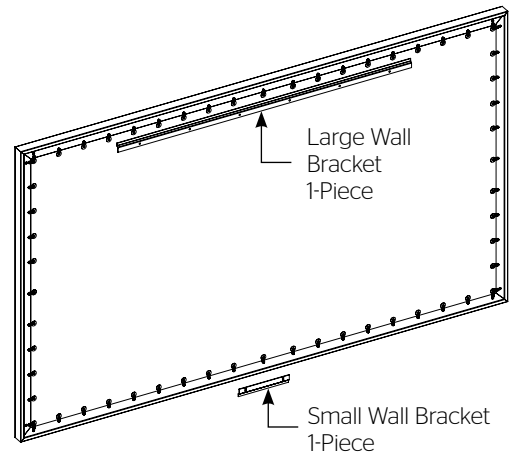

Figure 5
1. Secure the wall bracket to wall studs at the desired height. Make sure the bracket is level. The top of the frame will be 1/8" above the top of the wall bracket when mounted. You will need at least 5/8" clearance above the bracket to hang the screen. Figures 5, 6, and 7 show the proper orientation for the supplied wall brackets.